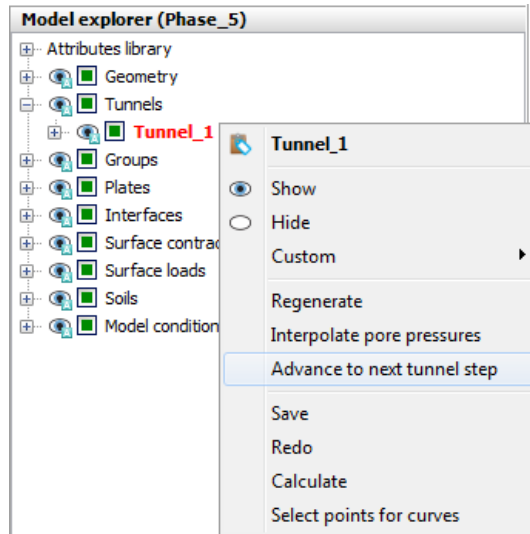

Figure 5.25 The *Advance to next tunnel step* option from *Model explorer*
- In the *Model explorer*, right-click *Tunnel_1* and click on *Advance to next tunnel step* (Figure 5.25) in order to allow the advancement of the TBM.